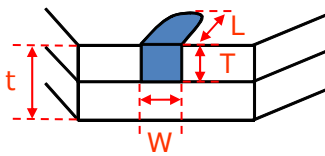

Fig.1
| Chipping | (A) $W \leq 3, L \leq 0.2, T = 1/2t$ | Ignore | Fig.1 |